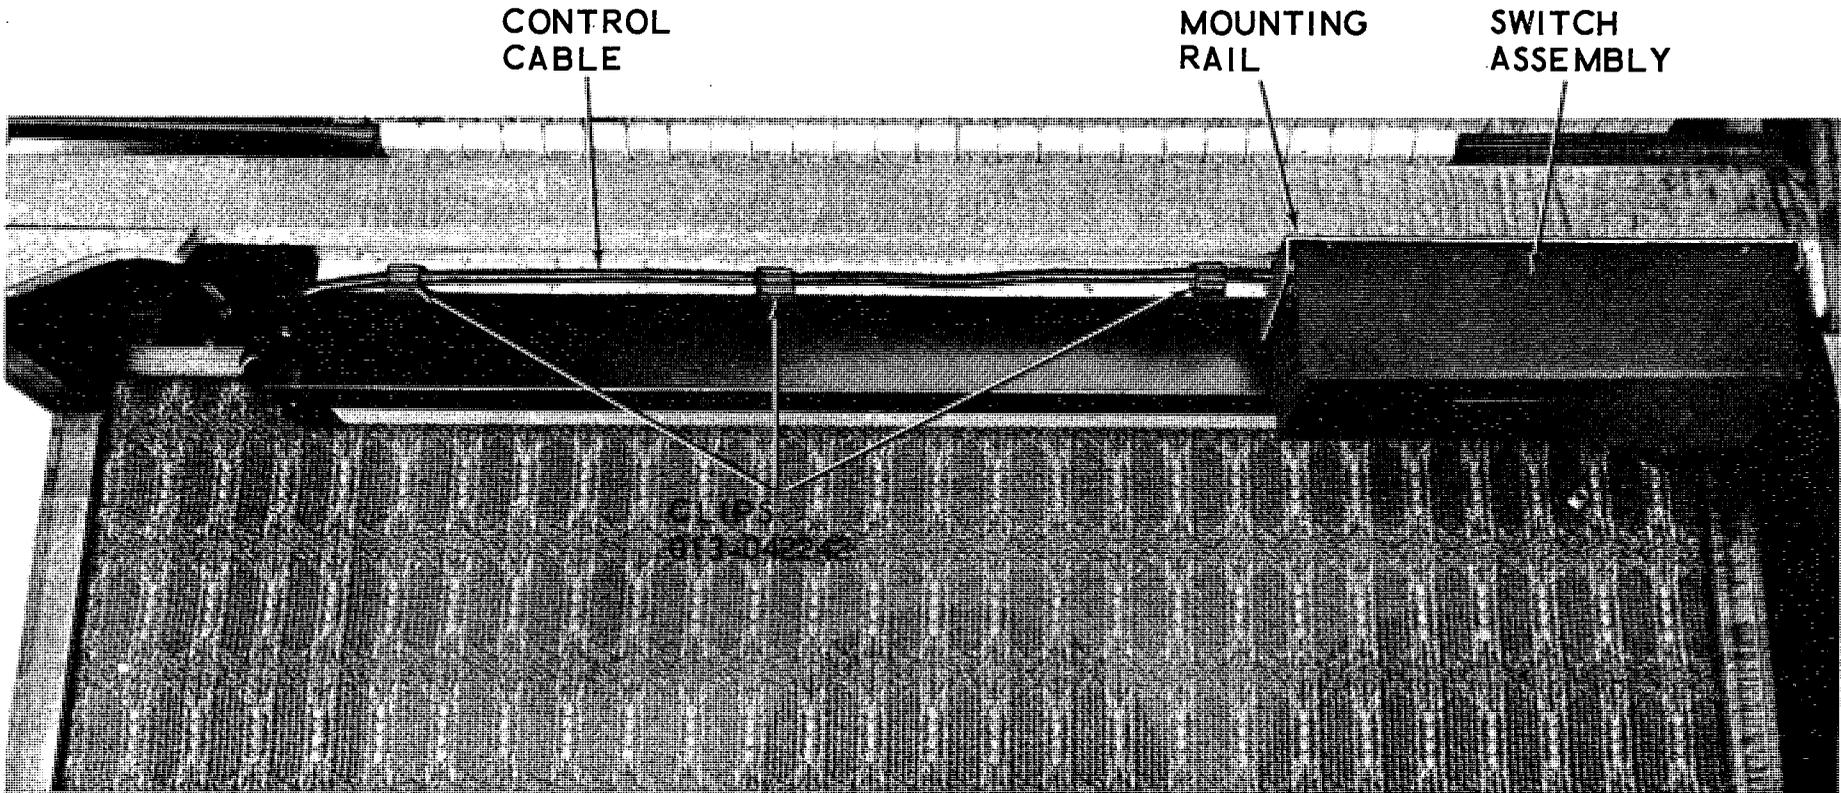

Figure A-1.
Figure A-1. Before fastening rail, place control unit on floor under rail. Drape control cable from right to left, (multi-pin connector toward left) over top of rail, then fasten rail into place with three screws, 884-050933, driven into pilot holes provided. Place adhesive felt 042-035141 over head of right side mounting screw.
- Install three adhesive-backed clips, 013-042242, at approximate locations shown in Figure A-1.
- c. Install mounting rail, 035-042081, open end toward front of organ as shown in Figure A-1. Before fastening rail, place control unit on floor under rail. Drape control cable from right to left (multi-pin connector toward left) over top of rail, then fasten rail into place with three screws, 884-050933, driven into pilot holes provided.
- i. Install three adhesive-backed clips, 013-042242, at approximate locations shown in Figure A-1.